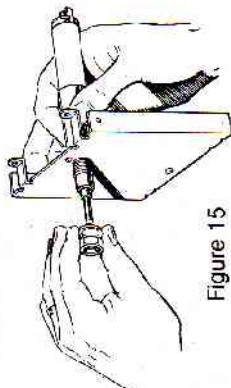

Figure 15
5. Remove nut and washer from the new tube assembly. Insert nipple and tube through hole in baffle plate, as shown in Figure 15. Replace washer and nut but before tightening be sure that the spigote, protruding from the baffle plate engages in the notch at the top of the tube metal jacket. When the nut is tightened, the end of the nipple threads should be flush with the outer surface of the nut. If necessary, the nipple can be threaded in or out of the jacket to achieve this adjustment. When these things are done, tighten nut firmly.